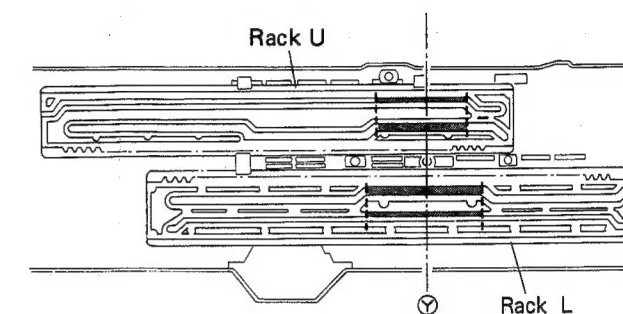

Fig. 3-4
1. Make sure that the positions of rack L and rack U are within the range indicated by the dotted lines in relation to the position of ④ in Fig. 3-4. (Position at which U, S, and L switches are all OFF.)